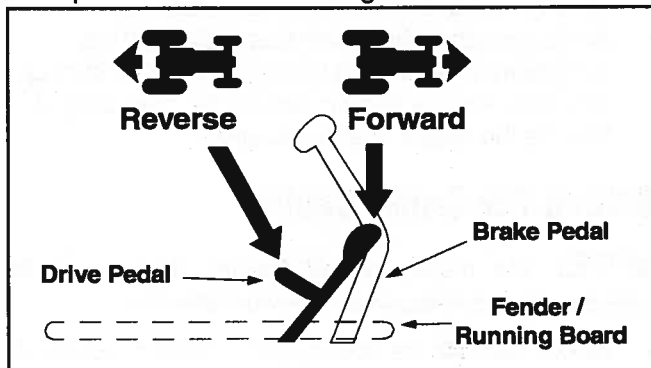

Figure 6
- To travel FORWARD, slowly depress the upper portion of the drive pedal forward until the desired speed is achieved. See Figure 6.
- To travel in REVERSE, check that the area behind is clear then slowly depress the lower portion of the drive pedal with the ball of your foot (NOT your heel) until the desired speed is achieved. See Figure 6.